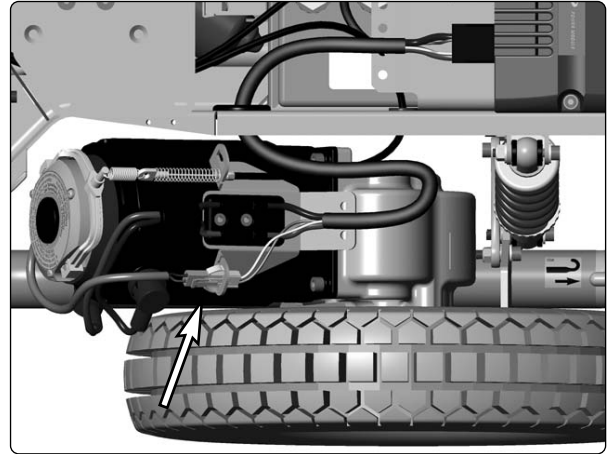

Fig. 37. Magnetic wheel lock electrical connection.
5. Remove the magnetic wheel lock’s electrical connection; see figure 37.